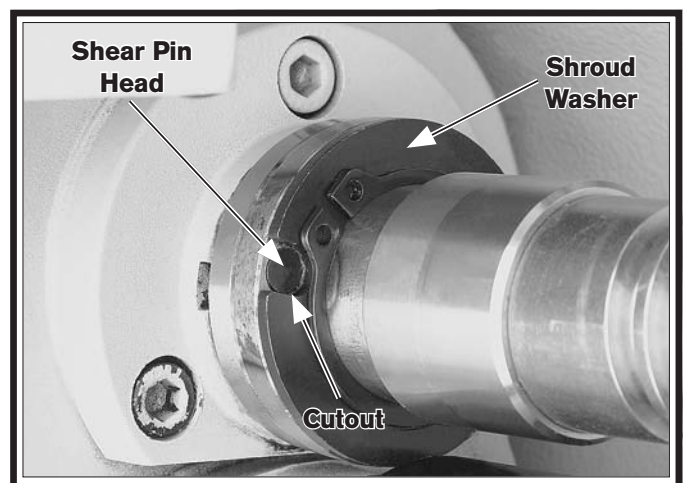

Figure 129. Shroud washer and shear pin alignment.
3. Rotate the shroud washer on the leadscrew (see **Figure 129**) so that the cutout lines up with the shear pin head.